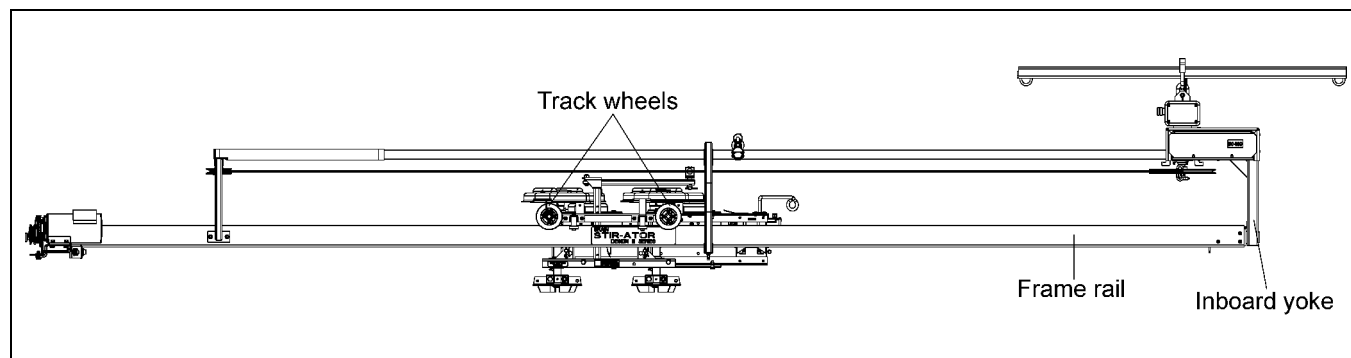
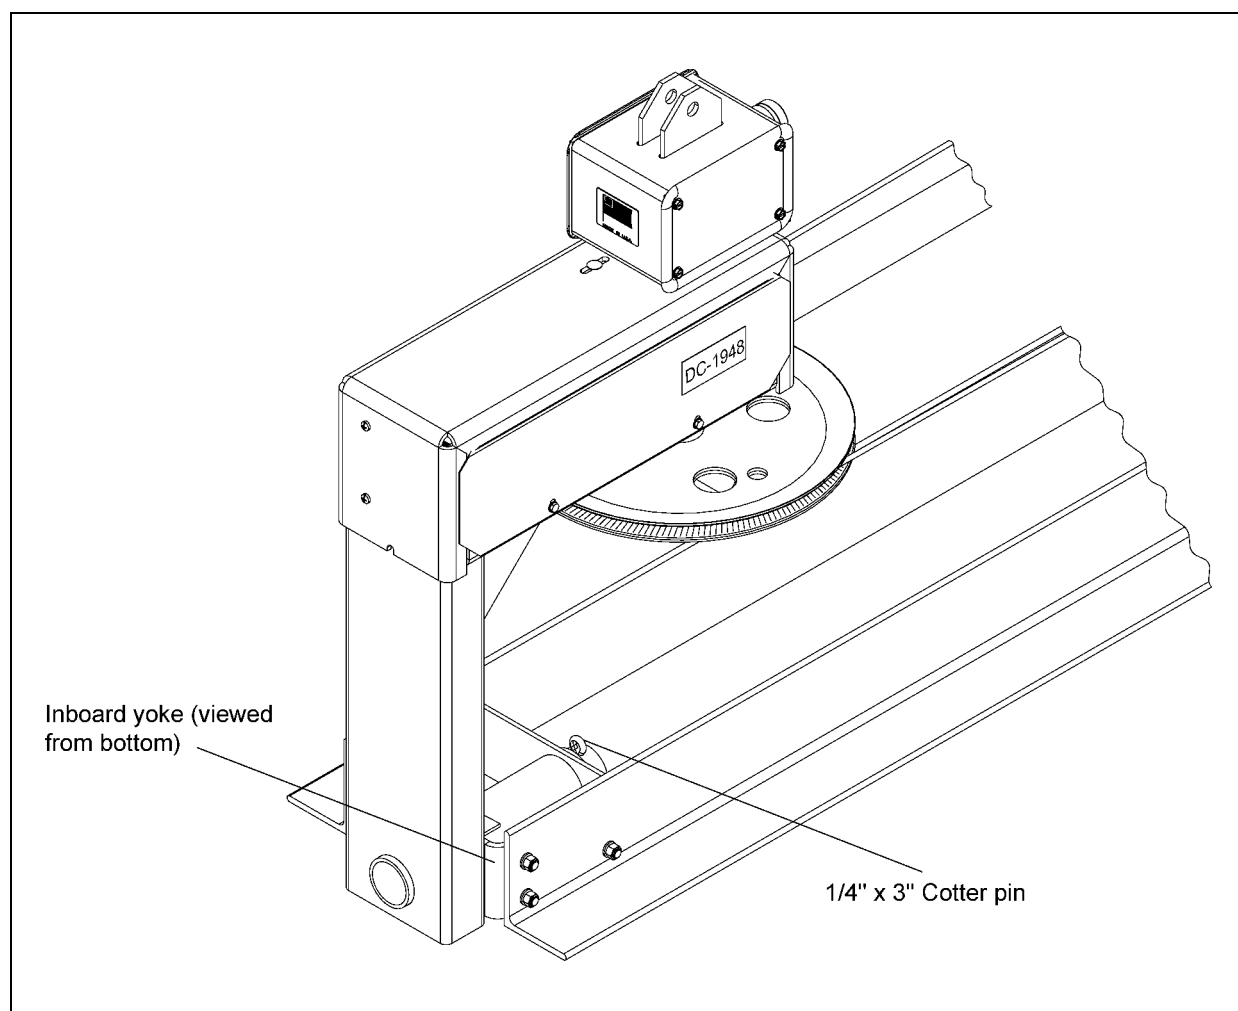
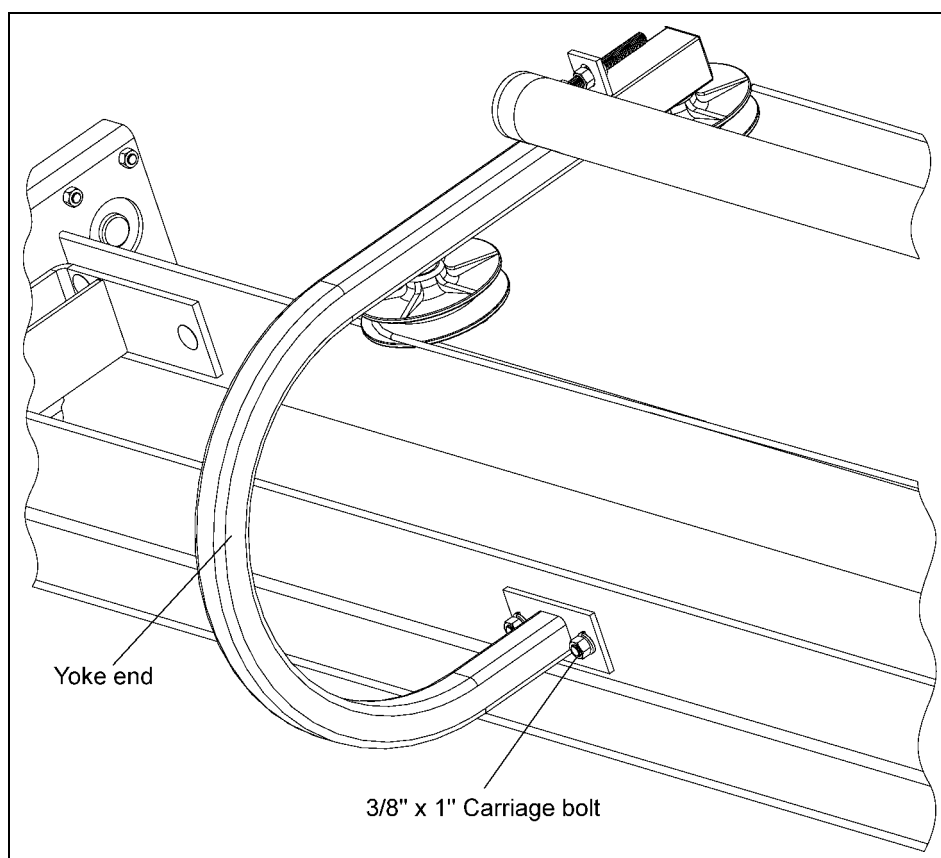
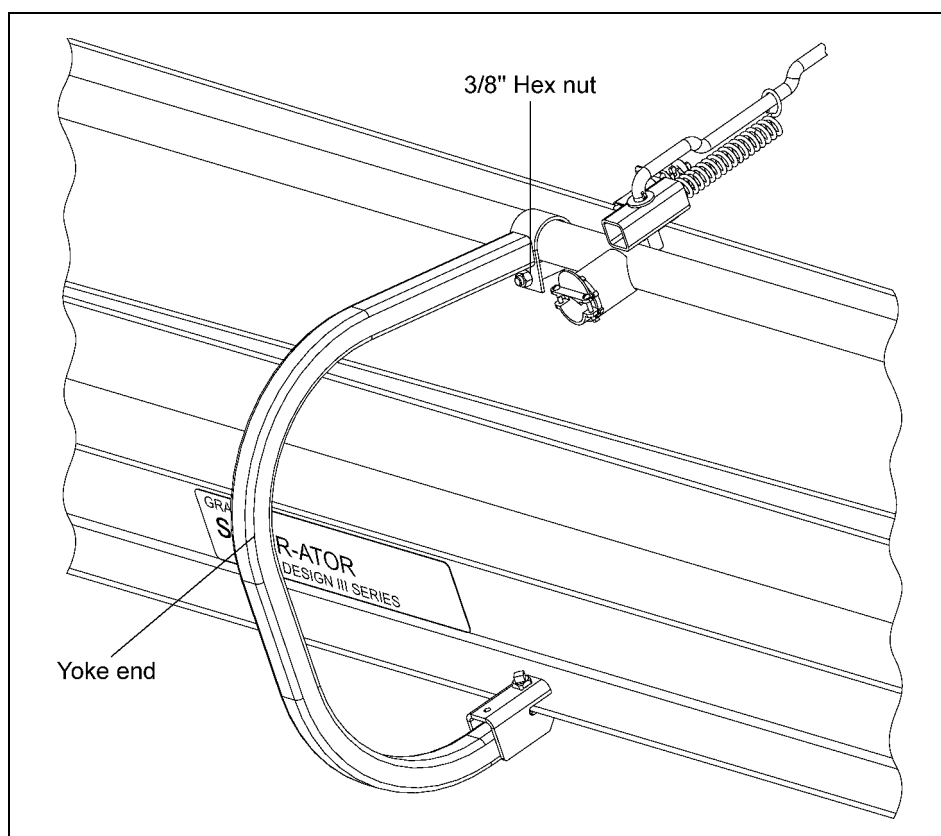

Figure 4T
Figure 4U
Figure 4V
Figure 4W
1. The yoke assembly is attached to the frame rails by placing the pivot tube into the center frame support. If the pivot tube does not slide in readily, file any burrs and grease the inside of the center frame support. Secure by placing a 1/4" x 3" cotter pin through the tube. Open the end of the cotter pin. The end yoke is bolted to the left frame rail with two (2) 3/8" x 1" carriage bolts, lock washers and hex nuts. Bolt from the inside out. Tighten with socket head on impact wrench. (See Figure 4T, Figure 4U below, Figure 4V and Figure 4W on Page 26.)